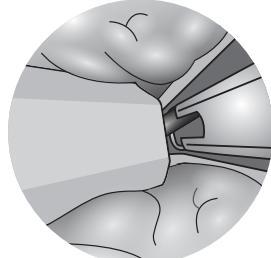

Figure 7
CAUTION: Failure to position suture against closest edge of keyhole (example shown in **Figure 7**, below) may result in Urethral End-Piece misdeployment or incomplete suture cut.
3.5 Press the Urethral Release button toward the telescope (**Step 4, Figure 7**) to deploy Urethral End-Piece and cut the excess suture. After the Urethral Release button is pressed, the complete implant has been deployed. If the suture is not fully cut after pressing the Urethral Release button, follow Step 5.3 to manually cut the suture. No further implants can be delivered using the same Delivery Device.